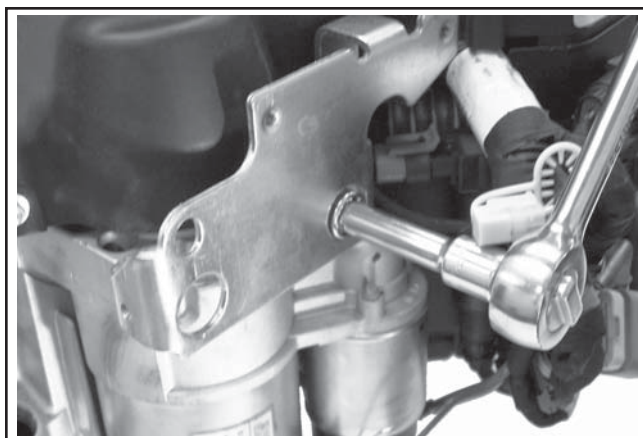

**Figure 8-23. Disconnect ECU Electrical Connectors.**
2. Disconnect the Black and Grey electrical connectors from the ECU. See Figure 8-23.